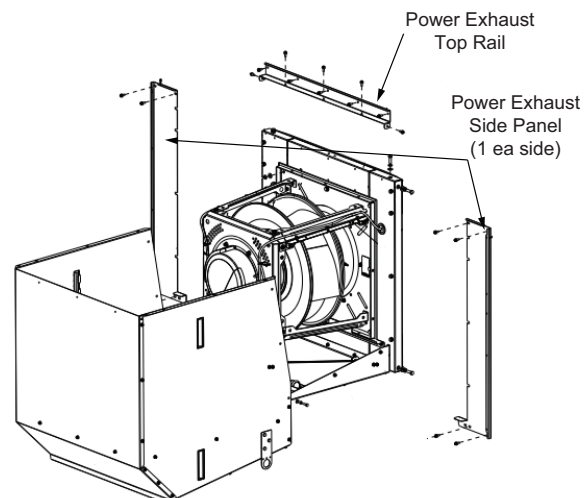

Fig. 42 — Power Exhaust Top Rail and Side Panel Locations
13. Re-install the panel above the power exhaust section. See Fig. 42.
14. Re-install the panels surrounding the power exhaust. See Fig. 42.